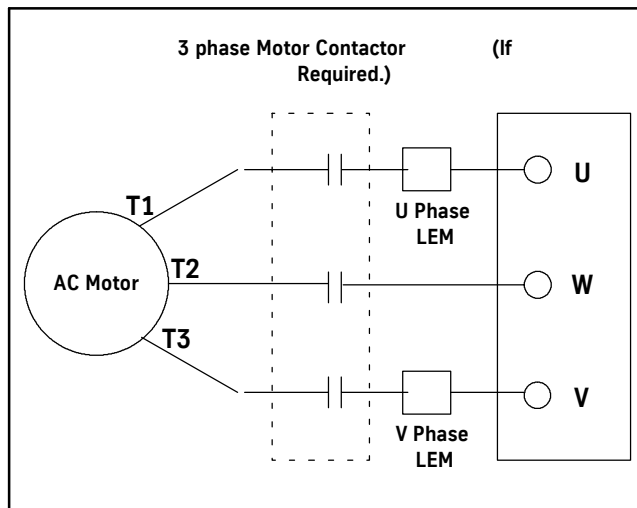

Figure 12 - AC Output Wiring with Motor Contactor
- **Installations WITH Motor Contactor: See Figure 12.**